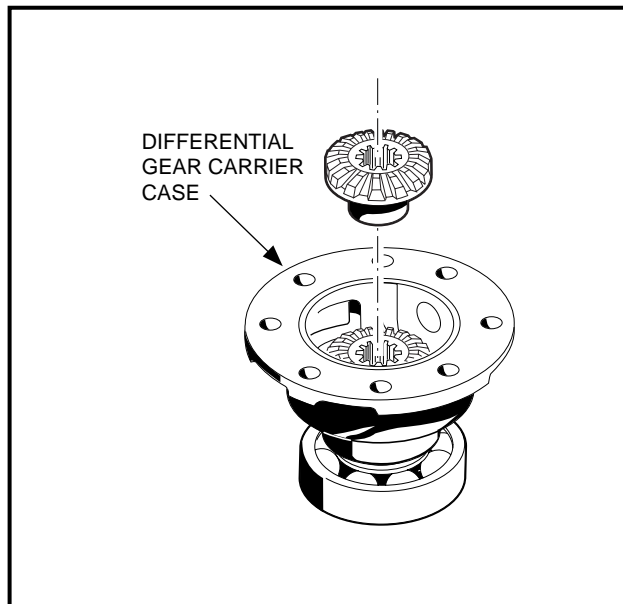

Figure 16-67 Differential Gear
2. Install differential gear (82) into carrier case (75) (**Figure 16-48, Page 16-20**) as shown (**Figure 16-67, Page 16-29**).